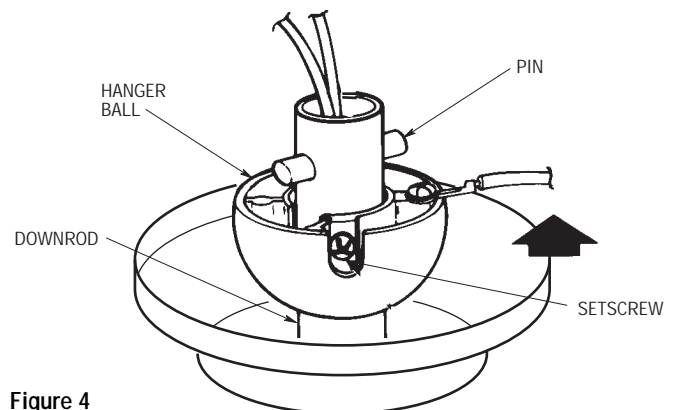

Figure 4
4. Reinstall the hanger ball (Figure 4) on the downrod as follows. Route the three 80" motor leads through the hanger ball. Position the pin through the two holes in the downrod and align the hanger ball so the pin is captured in the groove in the top of the hanger ball. Pull the hanger ball up tight against the pin and securely tighten the setscrew in the hanger ball. A loose setscrew could create fan wobble.